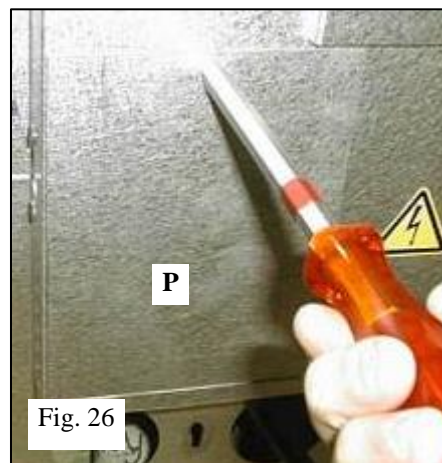

Fig. 26
- Connect to terminal block in accordance with figure 26.